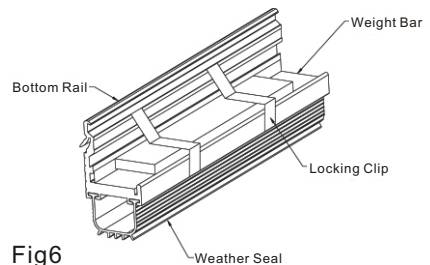

Fig 6
- r. Place the weight bar provided on the bottom rail. Secure the weight bar with the two spring clips provided 300mm from each end of the weight bar. (Fig. 6) We also advise the use of silicone in securing the weight bar in place before clips are fitted.